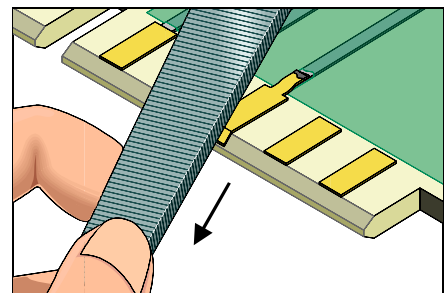

Figure 5: File overhanging piece of new edge contact to blend with existing bevel.
16. Trim the extending edge of the new edge contact with a file. File parallel to the beveled edge until the excess material has been removed. (See Figure 5).